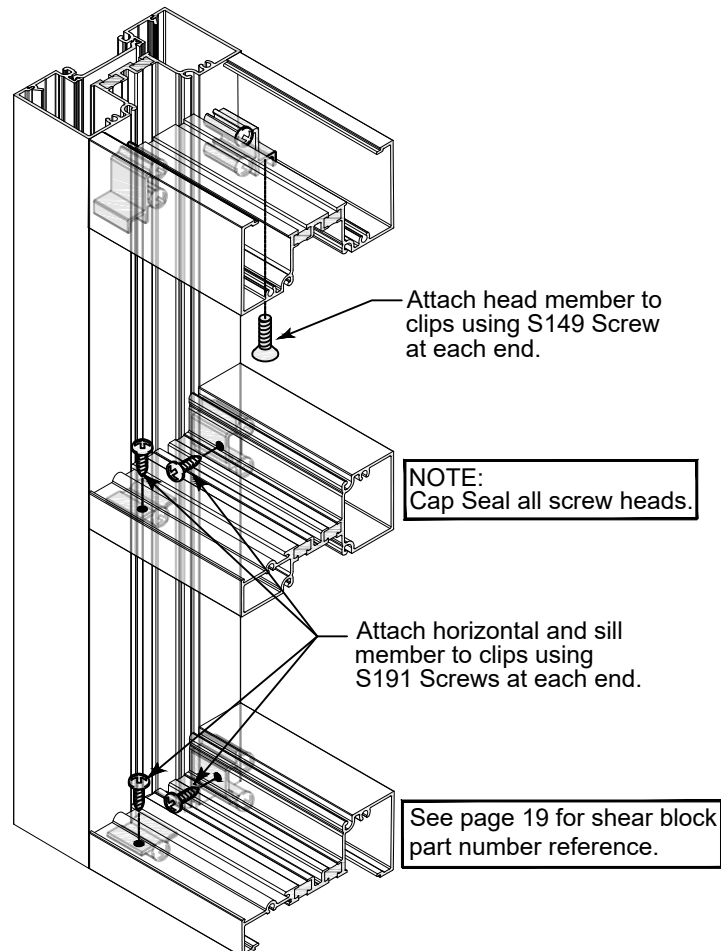

Fig. 27.1
- G. Secure head member to shear block with (1) S149 #12 x 3/4" FH screw. Secure horizontal and sill members with (2) S191 #10 x 1/2" truss head screw. See Figure 27.1.